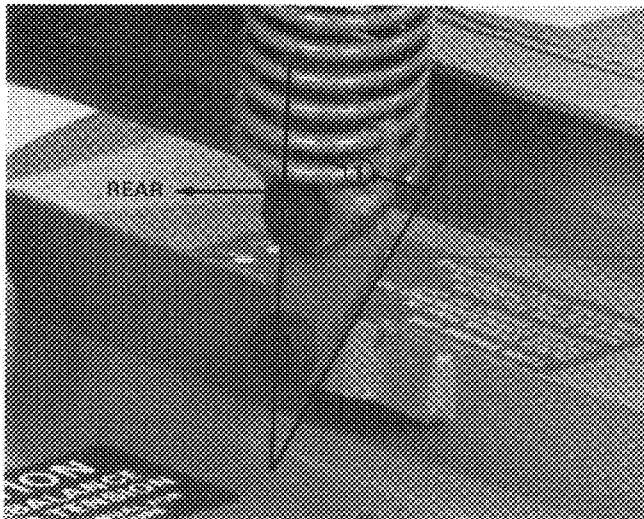

Figure 7
**IMPORTANT:** The top hole in the knee link bracket(s) must face to the rear (Fig. 7), otherwise the weight transfer spring could fold incorrectly, going under the tractor frame when the deck is raised all the way.